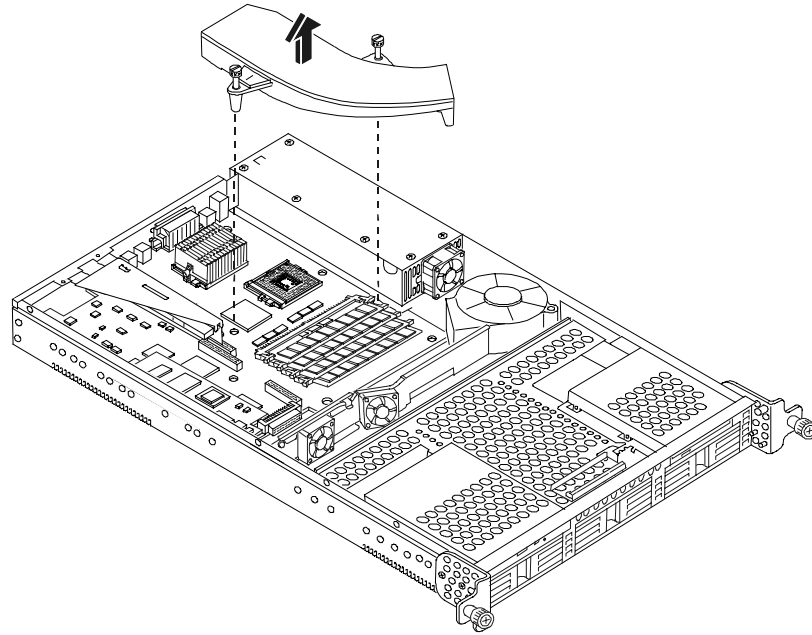

Figure 6-2. Removing the Air duct
6. Loosen the two captive screws holding the air duct over the DIMM slots and remove the air duct. See Figure 6-2.
1. Loosen the two captive screws holding the air duct over the DIMM slots and remove the air duct. See Figure 6-2.